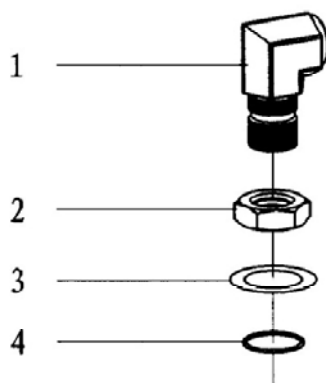

Fig 19
7.16. Bend adaptor(NPT1 1/4-1 5/8-12UN) (Fig19, Table18)